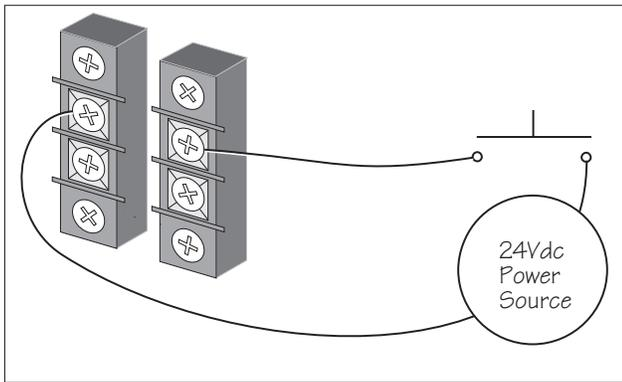

Fig 4-10 24Vdc EPO Switch
**Note:** *An existing jumper must be removed from the terminal block if a 24Vdc REPO switch (figure 4-10) is to be installed.*
Connect the 24Vdc REPO wiring to the terminal block as illustrated in figure 4-10 below.